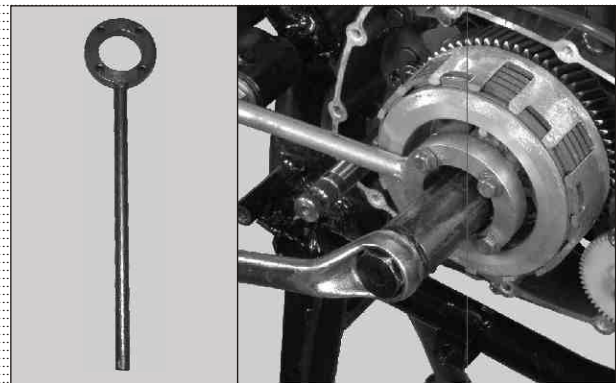

Fig. 1.15
- To hold disc clutch pressure while loosening and tightening the nut clutch shaft. (Fig 1.15)